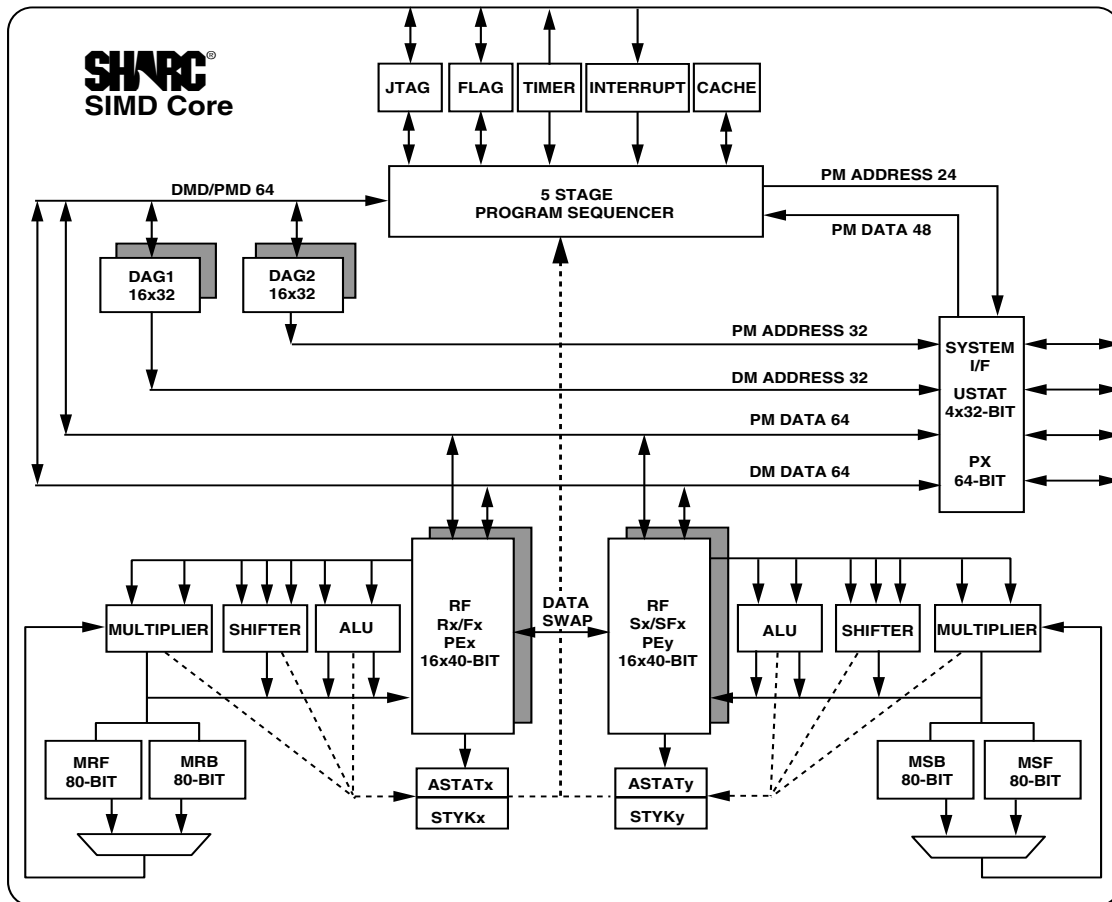

Figure 2. SHARC Core Block Diagram
shares architectural features with the ADSP-2126x and ADSP-2116x SIMD SHARC processors, as shown in Figure 2 and detailed in the following sections.
The processor features an enhanced Harvard architecture in which the data memory (DM) bus transfers data and the program memory (PM) bus transfers both instructions and data (see Figure 2). With separate program and data memory buses and on-chip instruction cache, the processors can simultaneously fetch four operands (two over each data bus) and one instruction (from the cache), all in a single cycle.